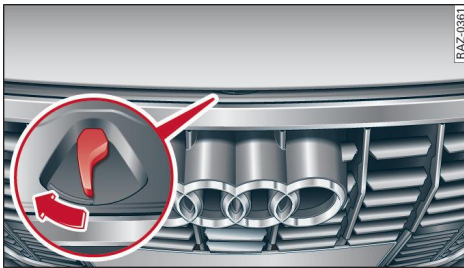

Fig. 155 Unlocked bonnet: Lever
- ▶ Press the release lever in the direction indicated by the arrow. ⇒ Fig. 155 This will release the arrester hooks.